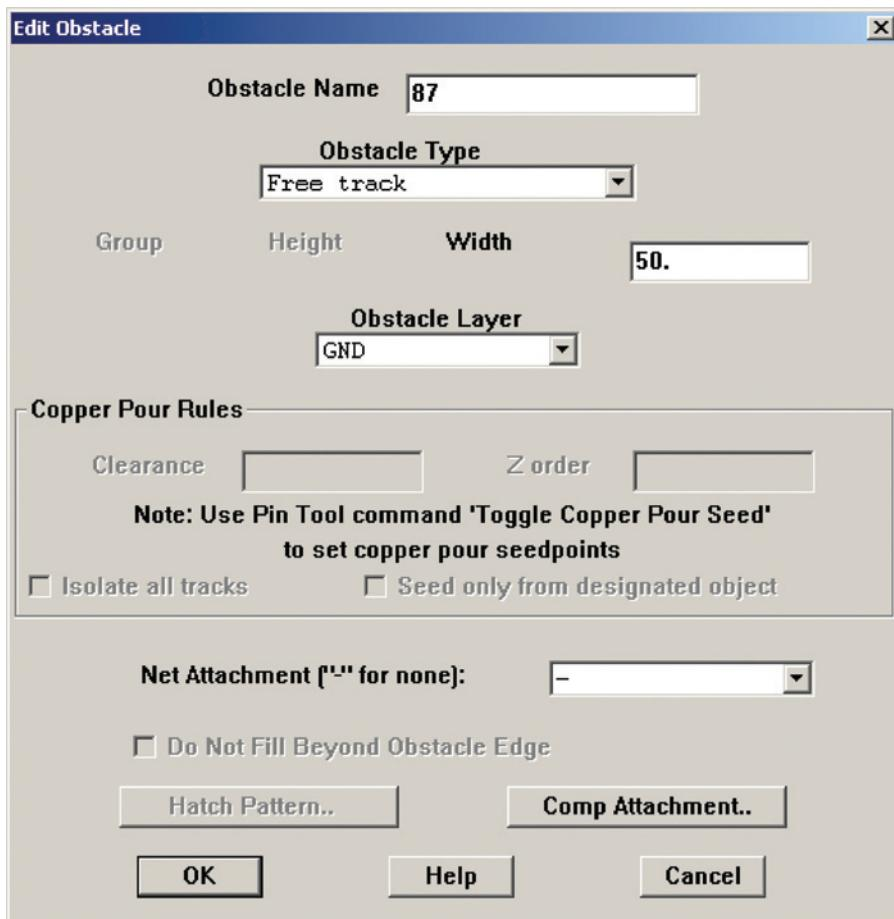

Figure 9-71 Setting up a free track (anti-copper) to split the ground plane.
**To split a ground plane**, select the Obstacle tool and right click to display the **Edit Obstacle** dialog box. As shown in Fig. 9-71, select **Free Track** from the Obstacle Type list, set the **Width** (spacing between ground planes) to **50** mils, and select **GND** from the Obstacle Layer list. Leave the Net Attachment as “-” and click **OK**.